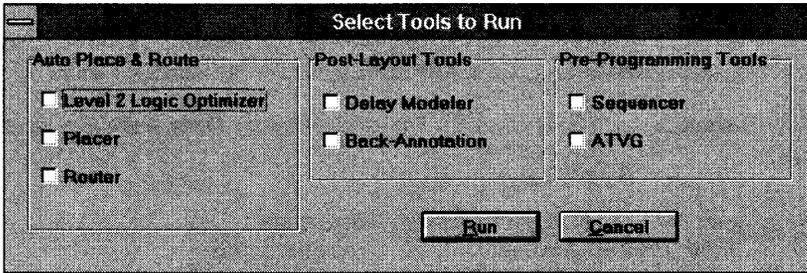
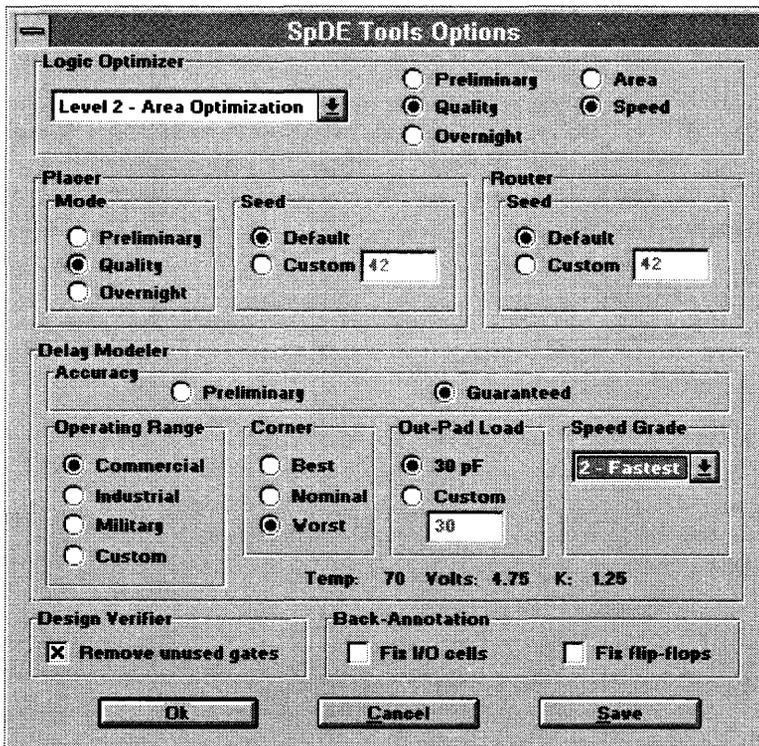

Figure 5-5 Select Tools To Run dialog box
Figure 5-6 General Tools Options window
*Run Tools* opens the *Select Tools to Run* window (Figure 5-5). This window is used to select which tools are to be run on the design. Two types of logic optimization can be run. This selection is made in the *SpDE Tools Options* window (Figure 5-6). Disabled tools are grayed out. Tools that have already been run are unchecked. Detailed descriptions of the Logic Optimizer, Placer, Router, Delay Modeling, Back-Annotation, and ATVG tools can be found in Section 5.4, "SpDE Design Tools." The Sequencer tool is only used to create data needed to program devices and has a short description in that section.
*Options* allows the user to select *General* or *Simulator* options. General options are the options for all tools. Simulator options affect only the Back-Annotation tool. The *General Tools Options* and *Simulator Options* windows are shown in Figures 5-6 and 5-7.